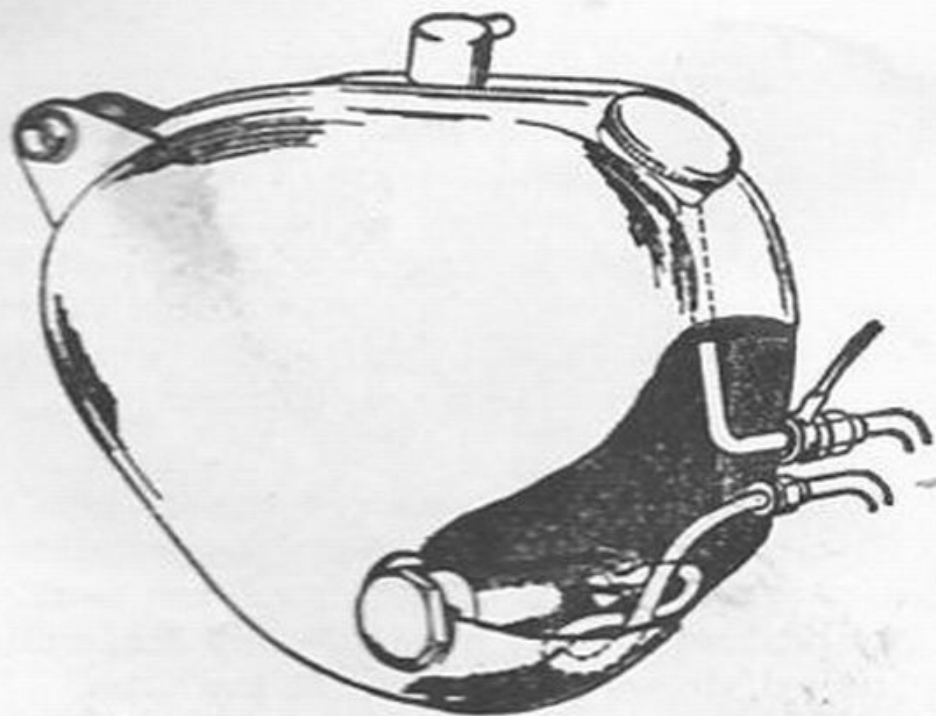
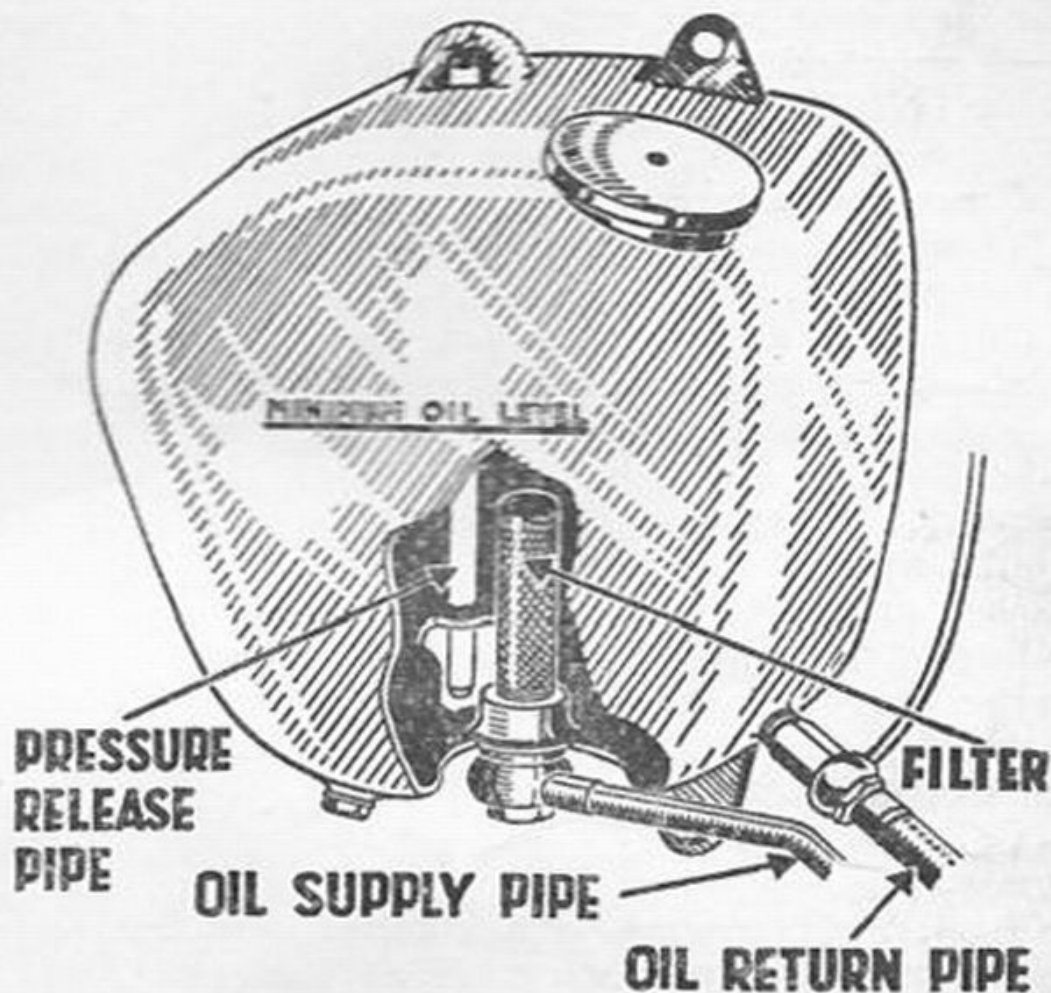

Fig. 3. The Oil Supply (Swinging Arm models).
Fig. 4. The Oil Supply (A10 G.F. Plunger model).
Do not let the oil level in the tank get too low, as economy in oil may prove very expensive at a later date. Running consistently with the level too low may cause the oil to become unduly hot. It must be remembered that the oil cools as well as lubricates, and a new engine tends to run a little hotter than one that is well 'run-in.' After the first 250 miles, drain and refill the oil tank with fresh oil and clean the filter (Figs. 3 and 4, pages 16 and 17). Repeat this process after 1,000 miles, and thereafter every 2,000 miles. The correct grades of oil are given in the lubrication chart on page 42. The gearbox should be drained after the first 500 miles, and thereafter every 2,000 miles.
The oil tank is fitted with a racing type breather tower. It is necessary to keep the short length of tube clear which projects horizontally from it. (See Fig. 3).
To remove the oil tank filter (Fig. 4) for cleaning,
1. The oil tank filter, page 16 (Fig. 3), page 17 (Fig. 4).